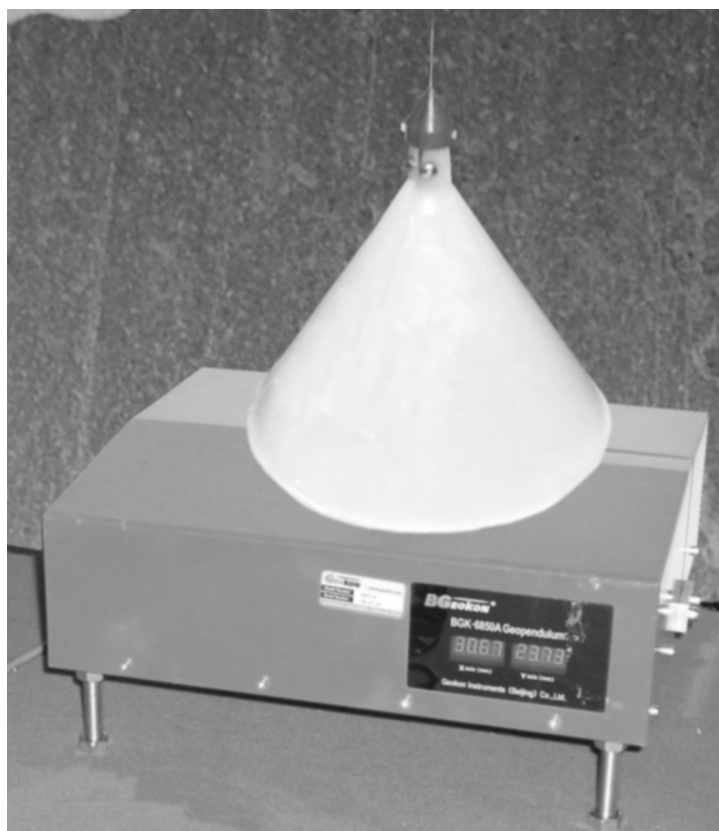

Figure 23 - Conical Drip Shield Installed
- 30) If a conical drip shield was purchased, use the wrench provided to tighten the nylon set screws onto the pendulum wire. Leave about a one-centimeter gap between the shield and the cabinet (Figure 23).